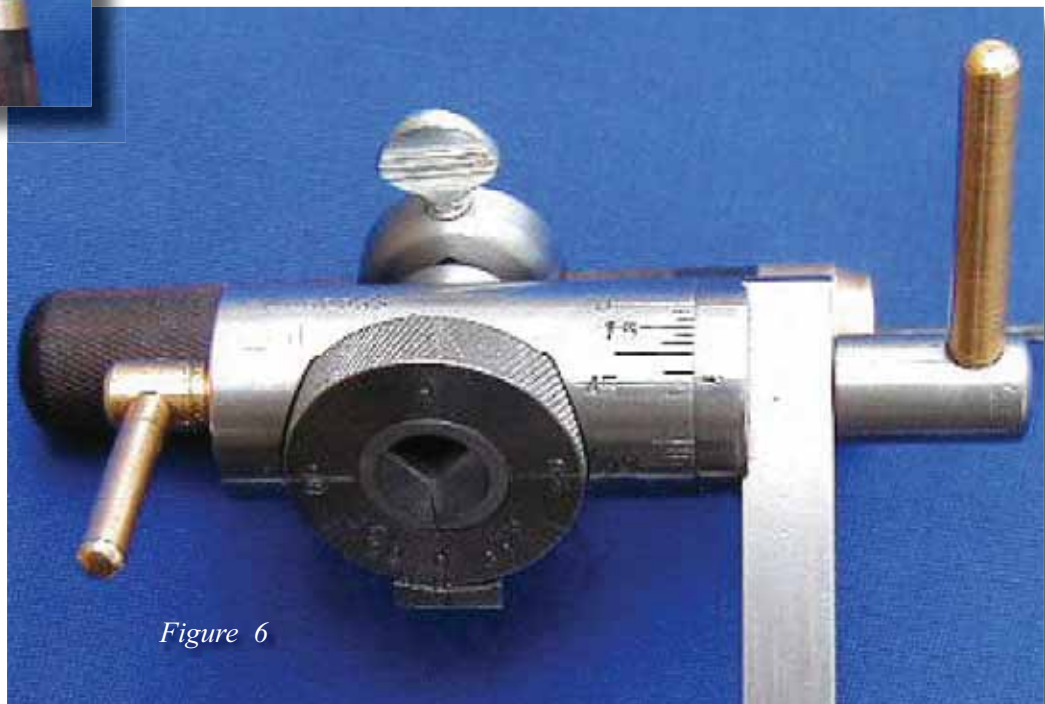

Figure 6
The angles on the heel or face are shown in the picture. (Figure 6) The large dial for the angles from zero (0) to create the heel lift can be set to any angle. 0 to 45 left and 0 to 45 right will cut the 90 degree used by many engravers. 0 to 30 left and 0 to 30 right will create the 120 degree heel. Etc. The face is cut with the (F) turned to the bottom marker place.